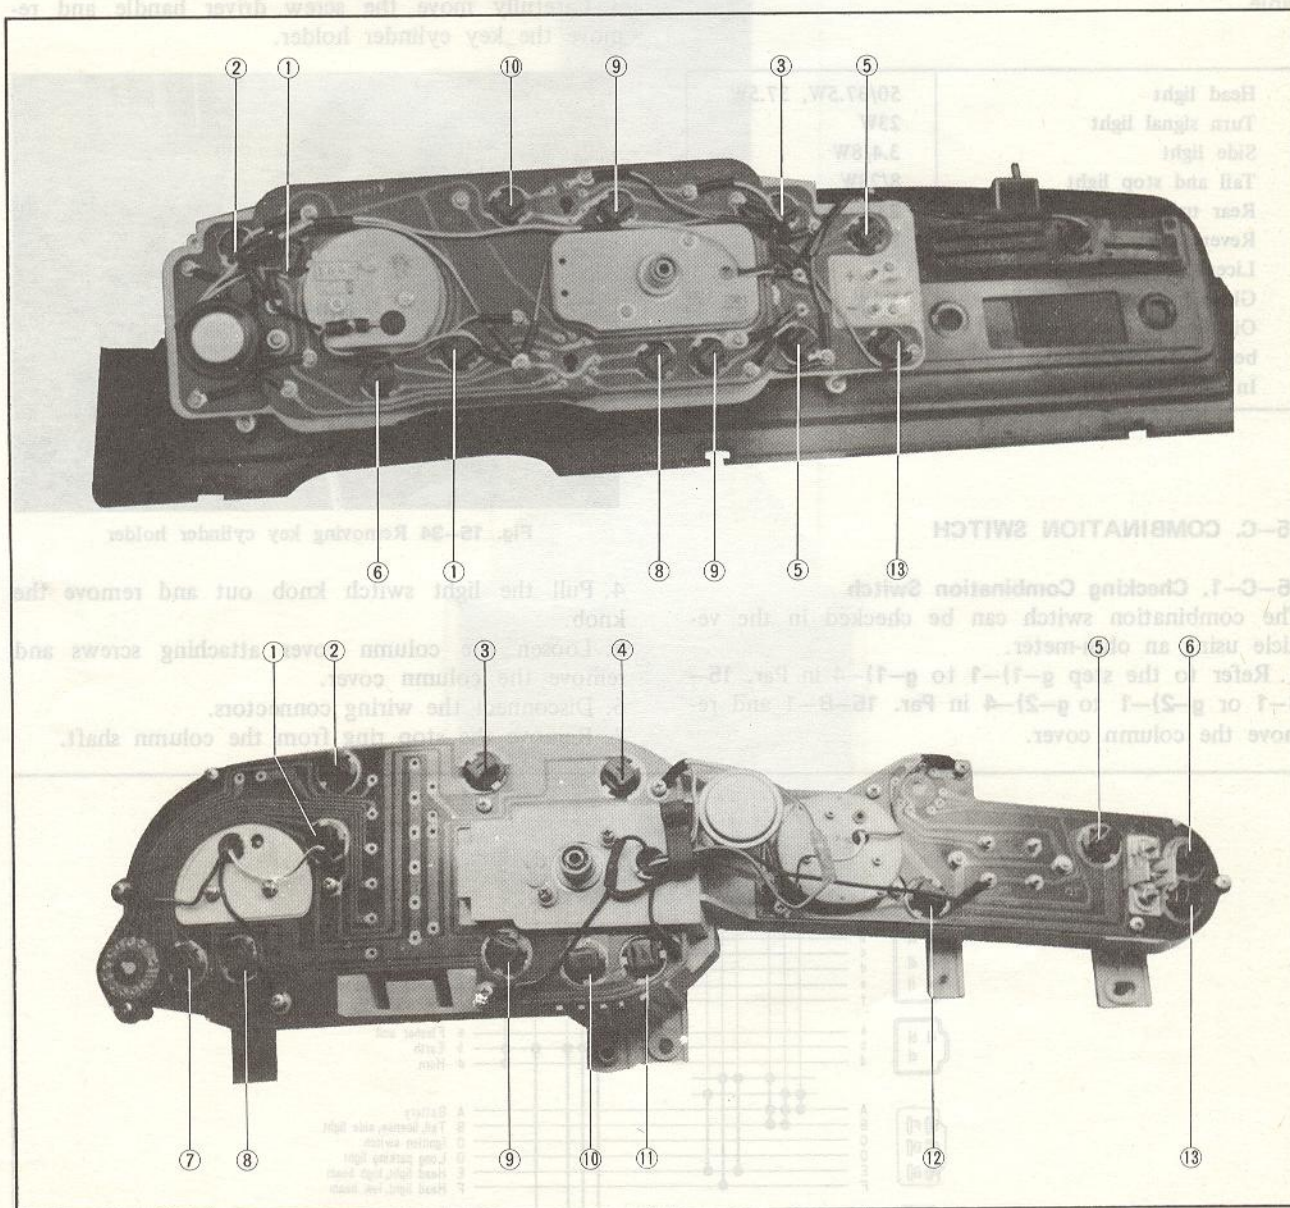

Fig. 15-31 Combination meter
11. Fig. 15-31 identify the bulb in the instrument panel. To remove the bulb, turn it counter clockwise until released, and then lift it out.